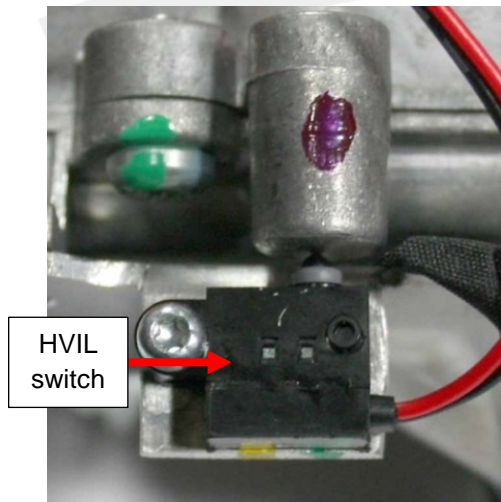
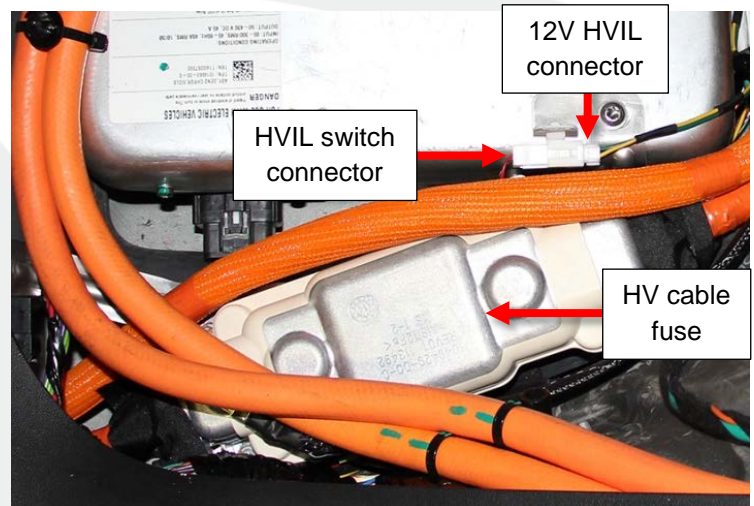

Figure 1
Figure 2
- If there is an HVIL switch (Figure 1) connected to a 12V HVIL connector (Figure 2), no additional work is required. Reinstall the 2nd row seat base frame and discontinue this procedure.